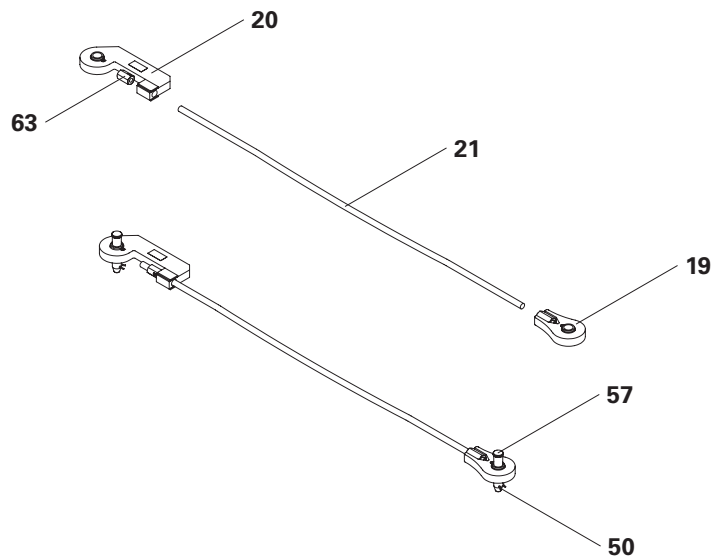

Fig. B2.12
1. Screw the tie rod (**21**) into the eye nut (**19**). (Fig. B2.12)